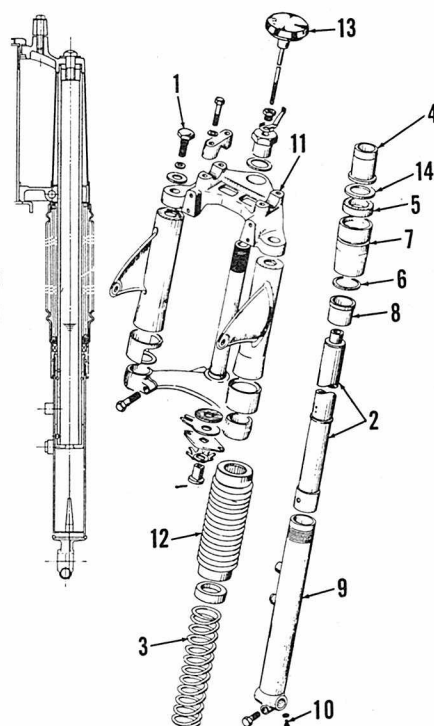

Fig. BS4-15—Exploded view of the front suspension. Cross section is at left.
**SUSPENSION.** Each front suspension unit contains 220cc of fork oil. The oil level should be 8 inches from the bottom of each fork tube. Oil is filled and measured through hole for plug (1—Fig. BS4-15). Drain plug is shown at (10). When dust covers (12) are installed, the small air holes should be toward outside and rear.